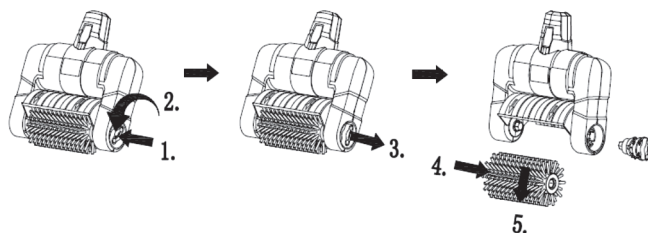

Fig. 3
A. Disassemble roller plastic brush (12), Refer to Fig. 3